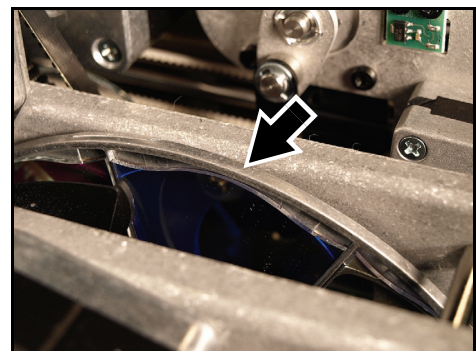

Figure 23: Color filter installation
6. Slide the filter into its clip in the center of the color wheel. See Figure 23. Make sure that the outer edge of the filter locates under the lip (arrowed) on the edge of the color wheel so that the filter is held securely.